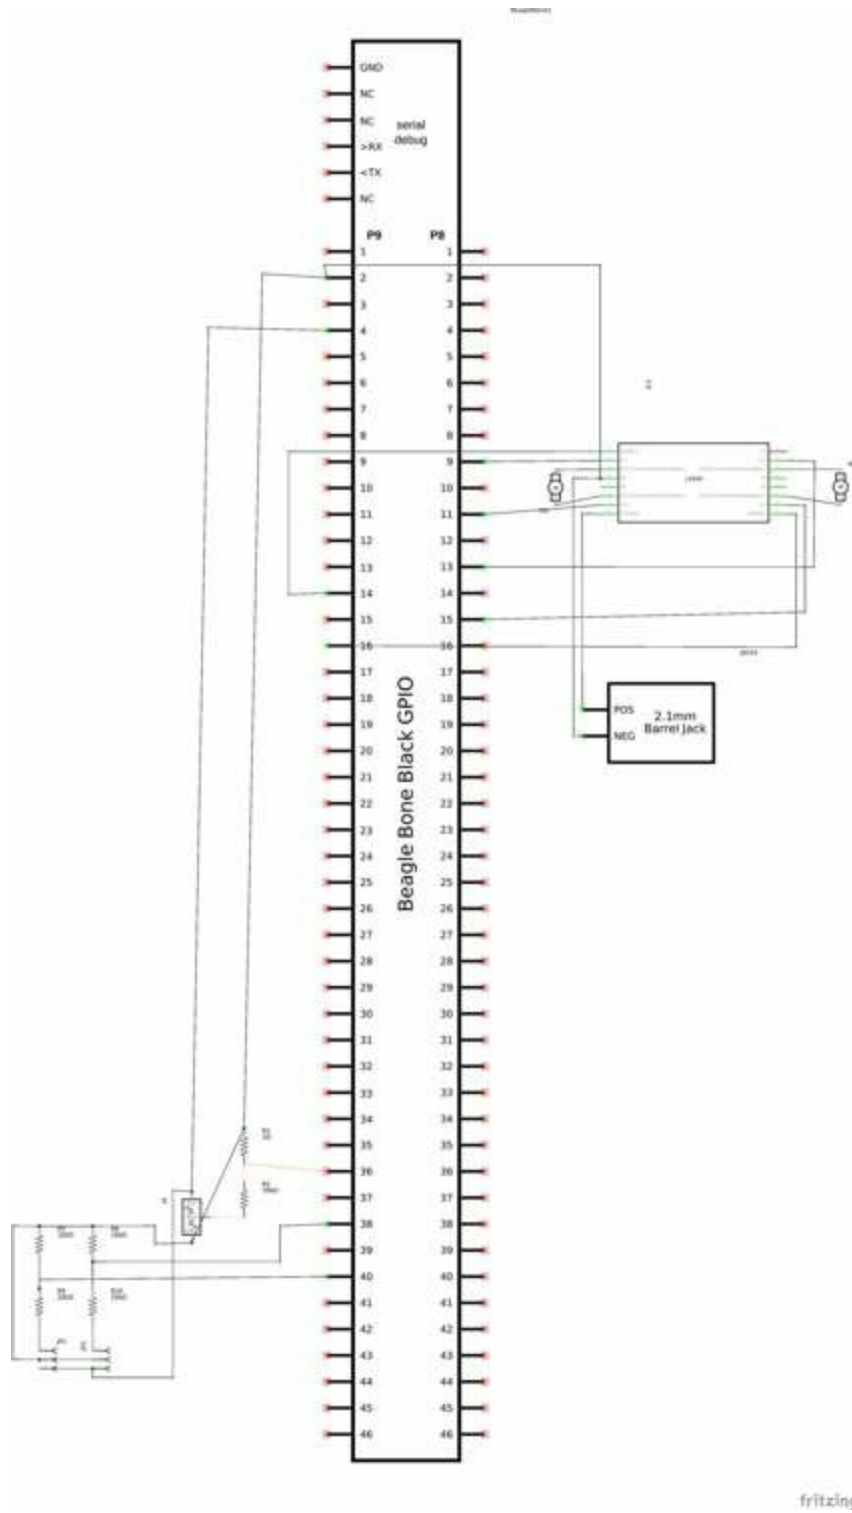

Figure 9-11. Cleaned-up schematic
**Figure 9-11** shows my cleaned-up schematic. I did it by moving the parts around until it looked better.